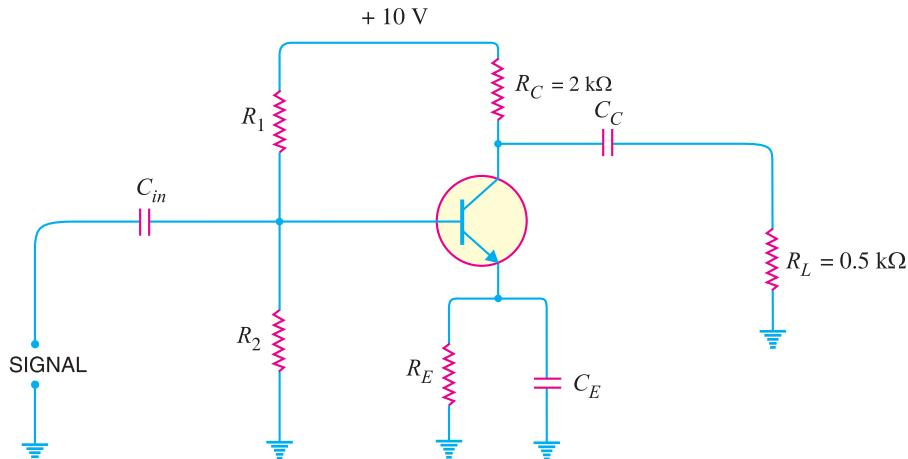

Fig. 10.20
**Example 10.8.** In the circuit shown in Fig. 10.20, find the voltage gain. Given that  $\beta = 60$  and input resistance  $R_{in} = 1 \text{ k}\Omega$ .
**Example 10.9.** In the circuit shown in Fig. 10.20, if  $R_C = 10 \text{ k}\Omega$ ,  $R_L = 10 \text{ k}\Omega$ ,  $R_{in} = 2.5 \text{ k}\Omega$ ,  $\beta = 100$ , find the output voltage for an input voltage of 1mV r.m.s.